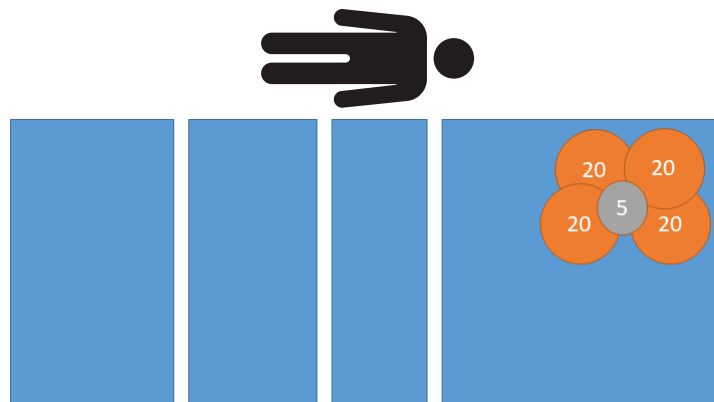

Figure 16 – Eccentricity test - 85 kg head right
4. Using calibrated weights, place 85 kg at the head, right of the product (Figure 16).